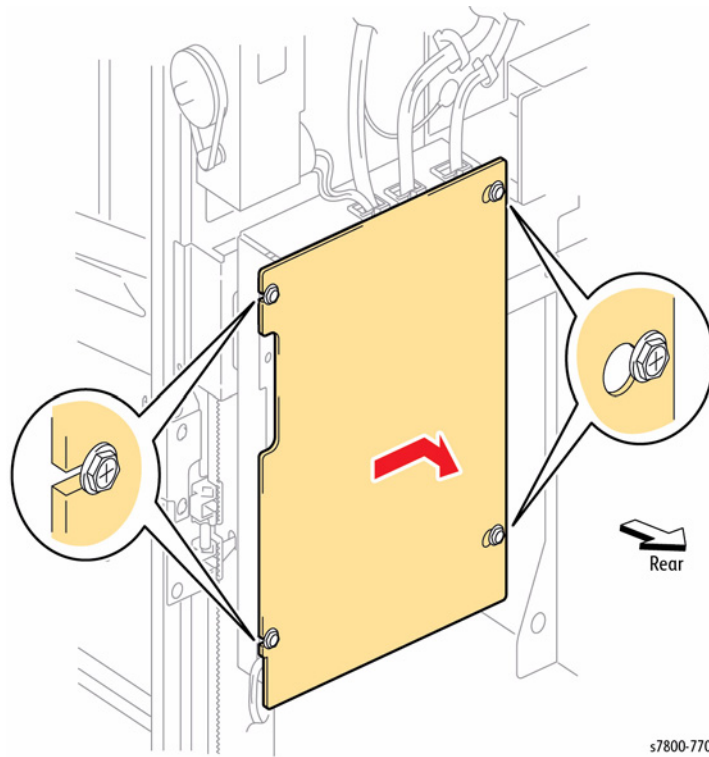

Figure 1 Removing the Main PWB Cover
4. Move the Main PWB Cover in the direction of the arrow to remove as shown in Figure 1.